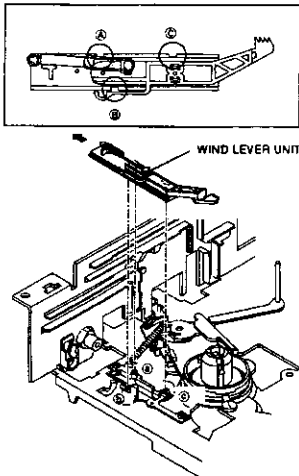

Fig. 2-29-1
- 1 Move the WIND LEVER UNIT in the direction shown by the arrow to remove it as shown in Fig. 2-29-1.
1 Set the WIND LEVER UNIT so that each of three notches (A) (B) and (C) on it respectively matches with the corresponding catch (a) (b) and (c) of the MAIN PLATE ASSY as shown in Fig. 2-29-1. Move the WIND LEVER UNIT in the opposite direction to the arrow to install it.